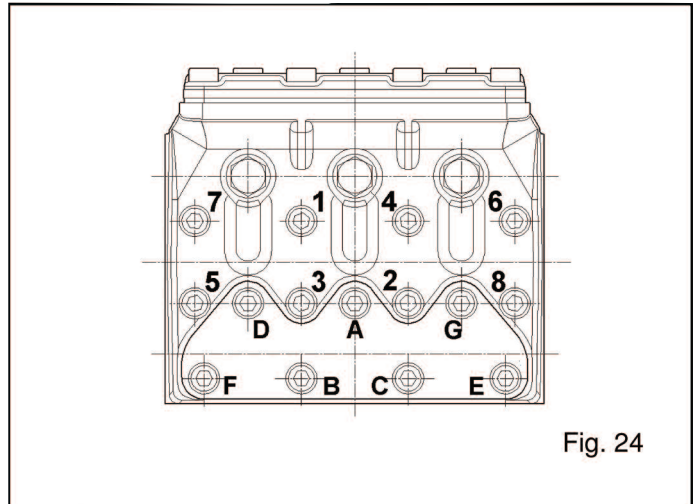

Fig. 24
D) To Reassemble the valves proceed the other way around, and tighten the cover screws with a torque wrench. The table on page 17 contains the screw tightening torque values and Fig. 24 indicated the sequence.
\*\*\* The fluid end screws must be tightened in 2 stages following the sequence indicated in fig 24: